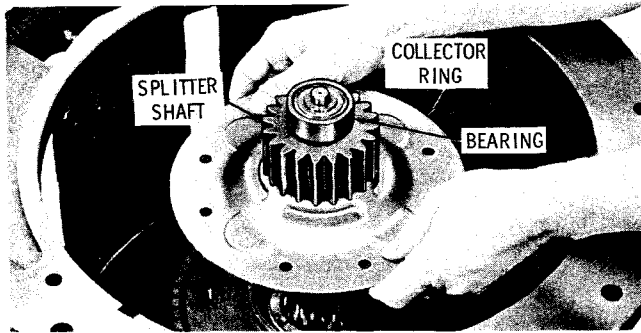

Fig. 7-7. Installing splitter output shaft S1654
(7) Install, as a unit, the splitter output shaft, oil collector ring, and splitter shaft bearings (fig. 7-7). If necessary, reach up under the transmission and rotate the splitter ring gear hub in order to aline all splines.